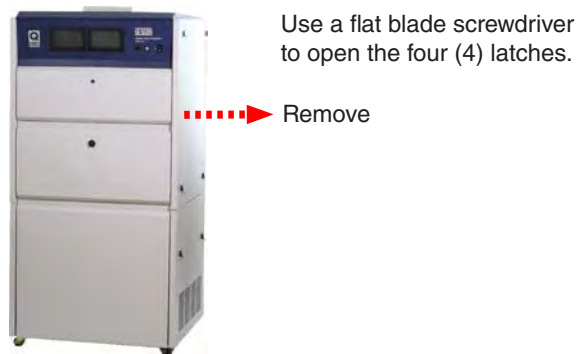

Figure 5.8c: Remove upper right side access panel to see the electrical panel.
- A hole is provided at the top rear of the machine so that a conduit fitting can be attached and the wires inserted inside the machine to the electrical panel behind the right side top access panel (Figure 5.8c).